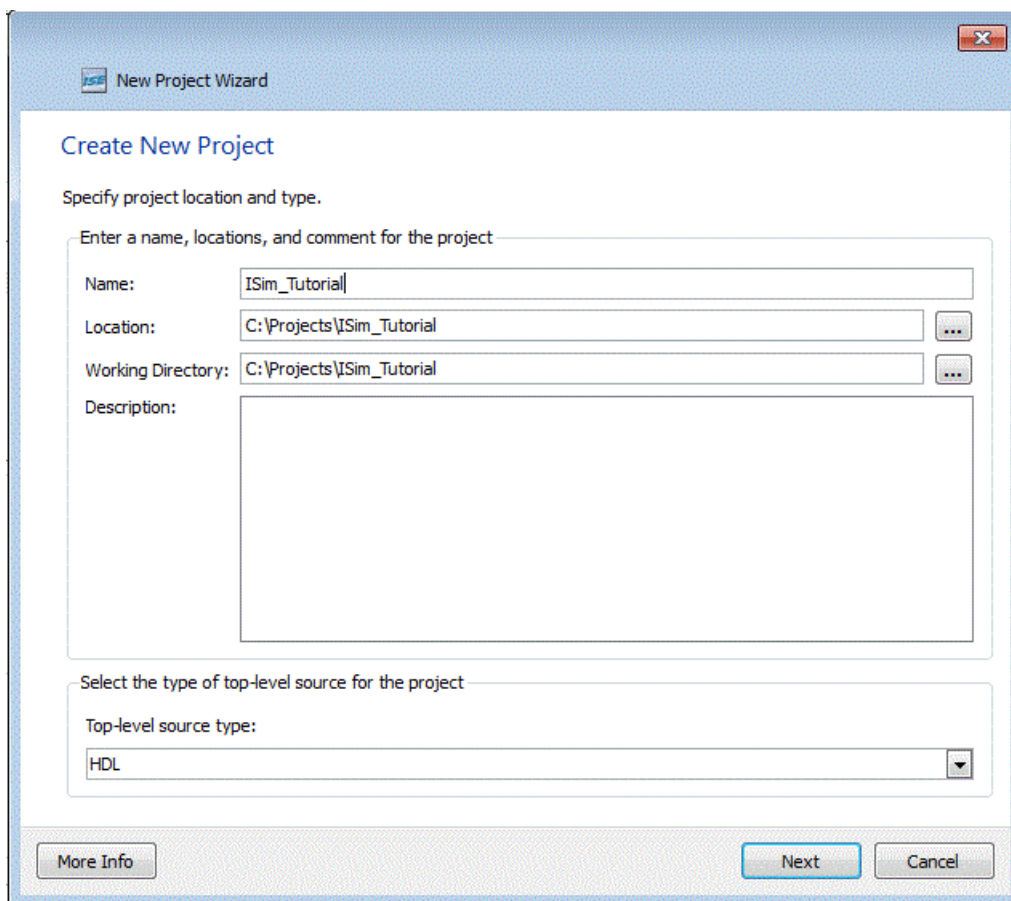

Figure 2-2: New Project Wizard: Create New Project Page
3. Provide a name and an appropriate location for the project (Refer to Figure 2-2).